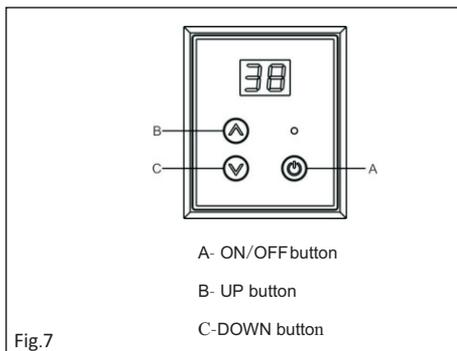

Fig.7
- Press ON/OFF button, the gas water heater will be in standby status. Press UP or DOWN button to set the temperature of water outlet (Fig 7). Press UP or DOWN button for one time, then the setting temperature will increase or decrease 1°C accordingly. When long press UP or DOWN button for every 0.3 seconds, the setting temperature will increase or decrease 1°C. Temperature setting range can be 35-60°C